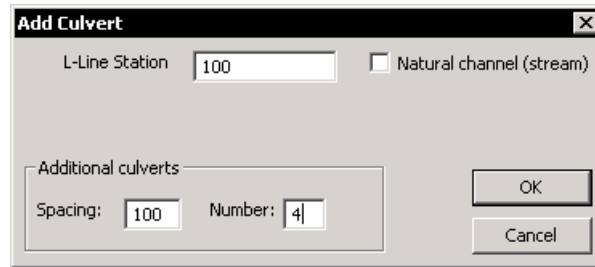

Figure 7.7: Add Culvert Dialog
11. Press the *Add* button and change the Add Culvert dialog box to match Figure 7.7. Press *OK*.